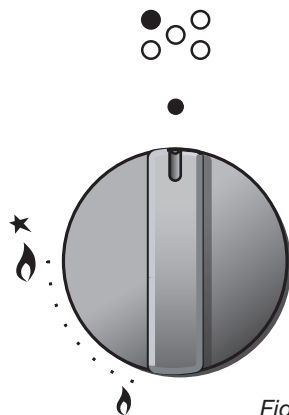

Fig. 4.3
Each hob burner is controlled by a separate gas tap operated by a control knob (fig. 4.3) which has 3 positions marked on the control panel, these are:
- 1) Press in the corresponding knob and turn counter-clockwise to the full flame position marked by the ★ symbol (fig. 4.3) and hold the knob in until the flame has been lit.